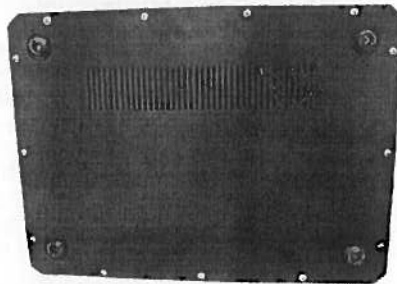

Fig.4-4 Bottom
- 2) Unscrew the 13 white screws from the bottom board and remove the board. (Fig.4-4)